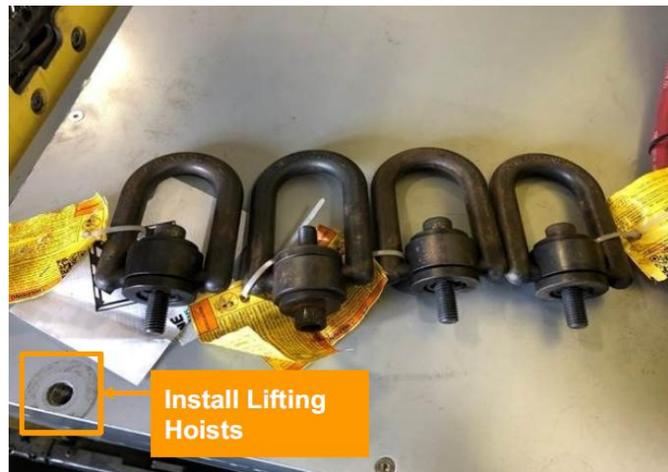

Figure 7: Image depicting where to install M14 lifting hoists on the battery.
2. Install the M14 lifting hoists onto the battery with the power drill (Figure 7).